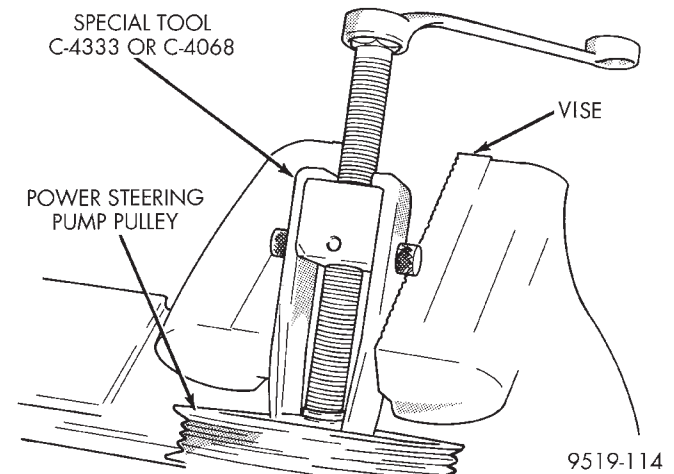

Fig. 53 Removing Pulley From Power Steering Pump Shaft
(2) Mount Puller, Special Tool C-4333 or C-4068 on power steering pump pulley. Mount power steering pump and puller in a vise (Fig. 53) to keep shaft of power steering pump from turning when removing pulley.